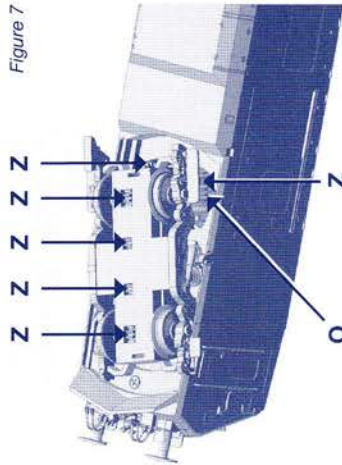

Figure 7
The railcar also need not be opened to lubricate the gear parts. It is perfectly sufficient to swivel the motor bogie to one side as shown in (Fig. 7). Then you can look between bogie and running gear and see the worm and worm wheel (O) and use a pipette to oil all the gear parts (Z). Then run the railcar up and down a little. This distributes the oil uniformly. Use commercially available oils and use a fine cannula or a needle. Caution: do not use cooking oil or hand cream.